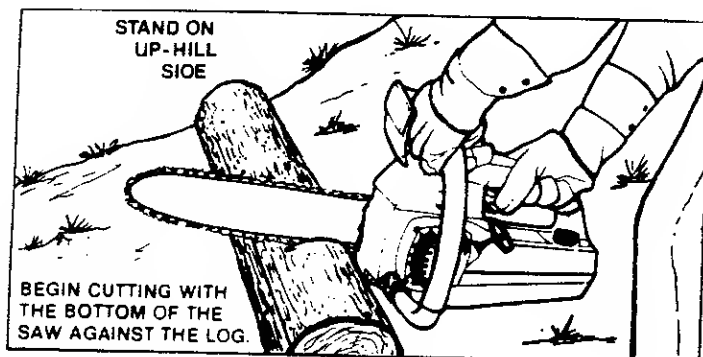

Figure 18
- Begin cutting with the saw frame against the log.** Figure 18.
- Plan to stand on the up-hill side when cutting on a slope.** Figure 18.